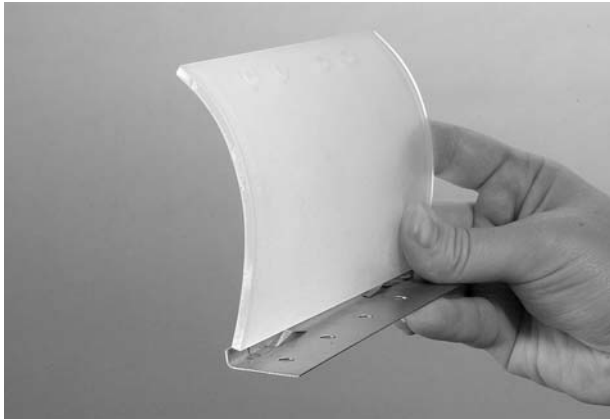

Figure 4-6 Focus Reflector Curve and Retaining Bracket
**Focus Reflectors:** See Figures 4-6 and 4-7. The bracket for the focus reflector is 23.3-mm (0.92-in.) wide. The edge of the reflector will sit on the retainer springs on the inside edge of the bracket.